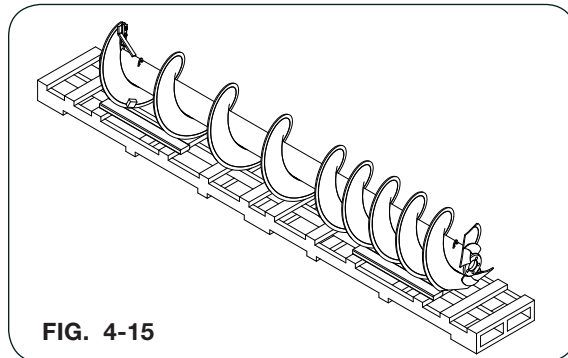

FIG. 4-15
- The replacement auger is factory balanced. Remove entire auger from shipping crate and secure from rolling. The lower auger assembly is pictured in FIG. 4-15 for reference.